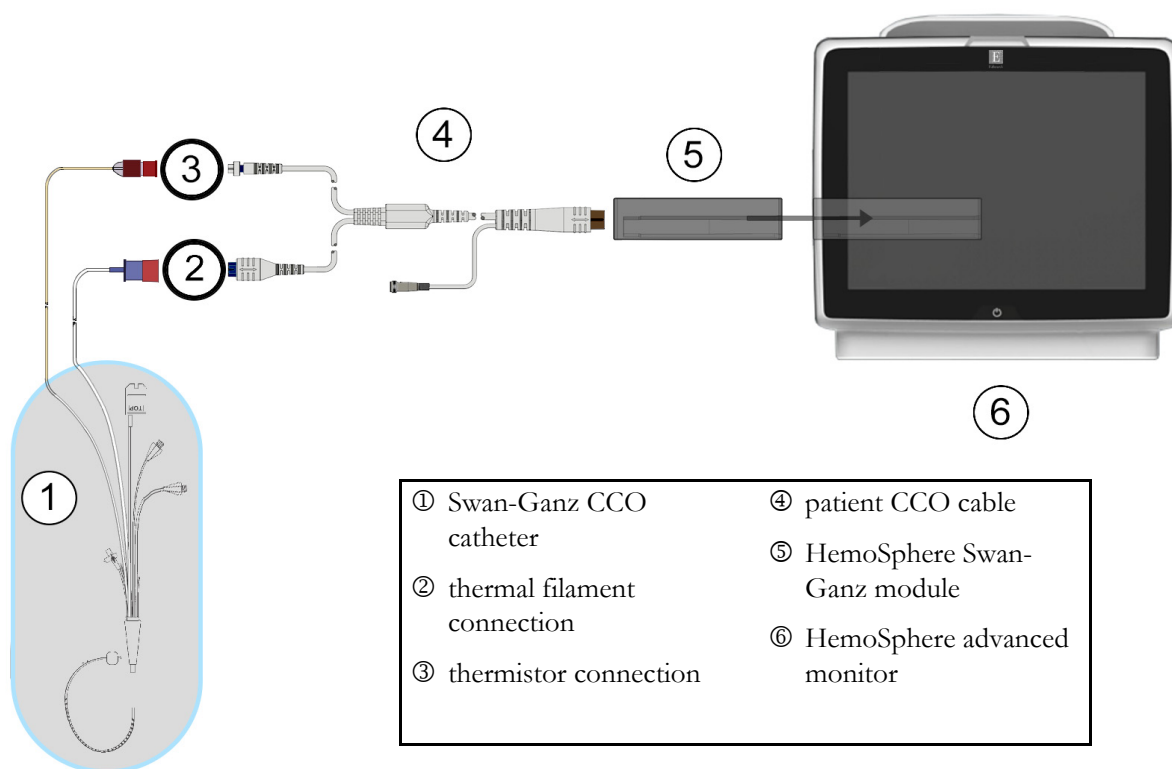

Figure 9-4 CO connection overview
- 2 Attach the catheter end of the patient cable to the thermistor and thermal filament connectors on the Swan-Ganz CCO catheter. These connections are emphasized as numbers ② and ③ in figure 9-4 on page 151.